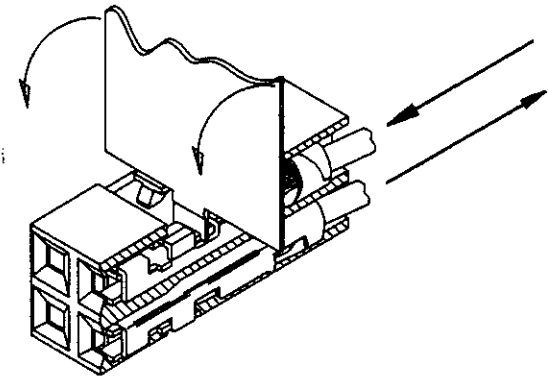

FIGURE 2
- ② TO REMOVE TERMINAL; PUSH TERMINAL FORWARD, LIFT LATCH WITH HAND TOOL AS SHOWN IN FIGURES 2 & 3. DAMAGE TO LATCH MAY OCCURE IF LIFTED MORE THAN A 25° ANGLE TO THE TOP OF HOUSING.